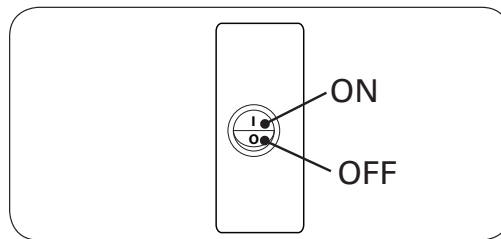

FIGURE 55
2. Locate the ON/OFF switch at the front of the switch box. Press the switch to the ON (I) position. **(Figure 55)** The igniter will begin to spark. After the pilot lights and is established, the valve will automatically open and the burner will light.